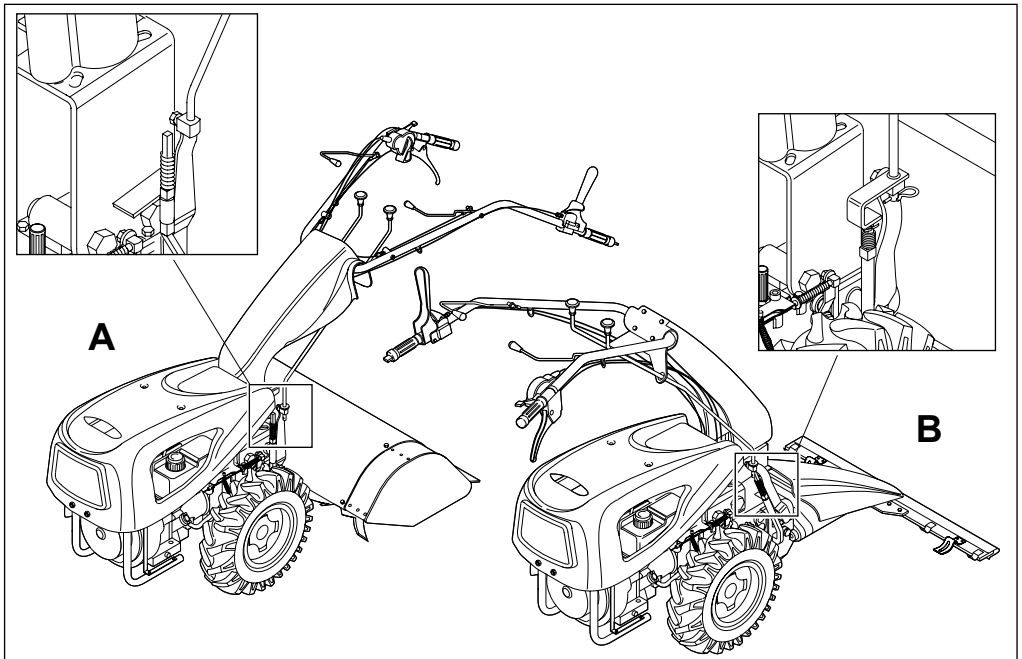

Fig. 7
**Figure 7 - A) Machine with milling unit. B) Machine with handlebars reversed and cutterbar.** The levers gearbox and PTO are different and should be mounted as shown in this figure.